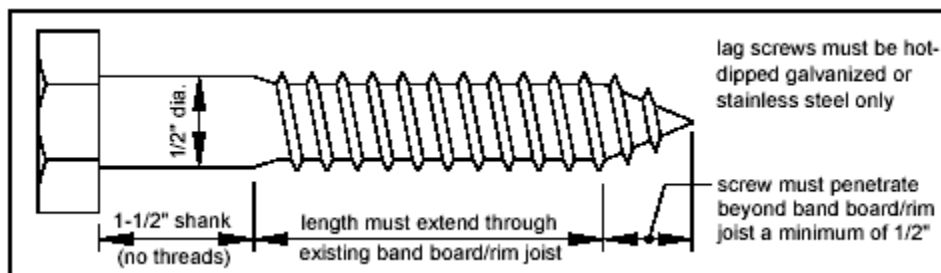

Figure 12 - Lag Screw Requirements
**Lag Screws:** Lag screws shall have a minimum diameter of  $\frac{1}{2}$ " and shall be hot-dipped galvanized or stainless steel. Lag screws may be used only when the field conditions match those shown in Figure 12. **You must verify the existing conditions in the field prior to applying for a building permit and installing lag screws. Compliance with all the requirements herein is critical to ensure the structural stability of your deck.** See Figure 12 for lag screw length and shank requirements. All lag screws shall be installed with washers. Lag screws are those where a pilot hole is drilled into the wood members that are to be connected together and the lag is screwed into the hole, a washer is required on the lag head, but no nut and washer is needed on the screw end.